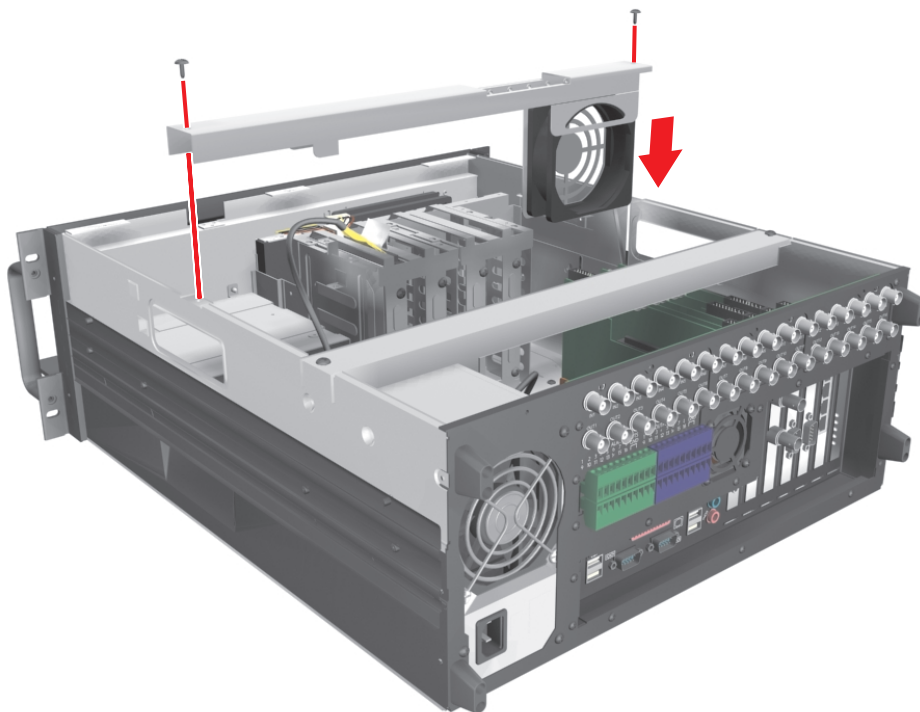

Figure 18. Replacing Front Cross-Brace
1. Replace the front cross-brace and secure it with the flat-head screws you set aside earlier. Refer to Figure 18.